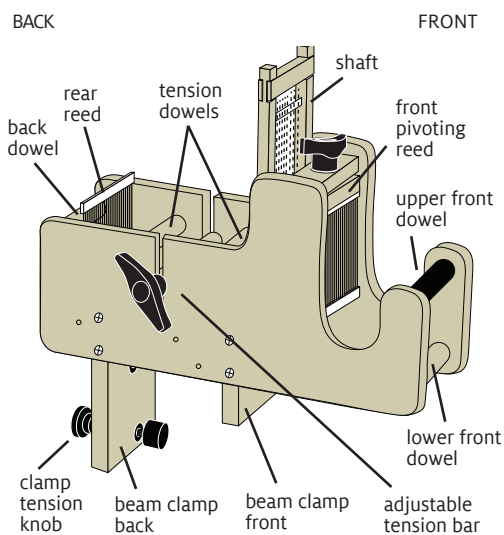

FIGURE 3: TENSION BOX PARTS
1. Remove the adjustable tension bar from its slot and set it aside (Figure 3).